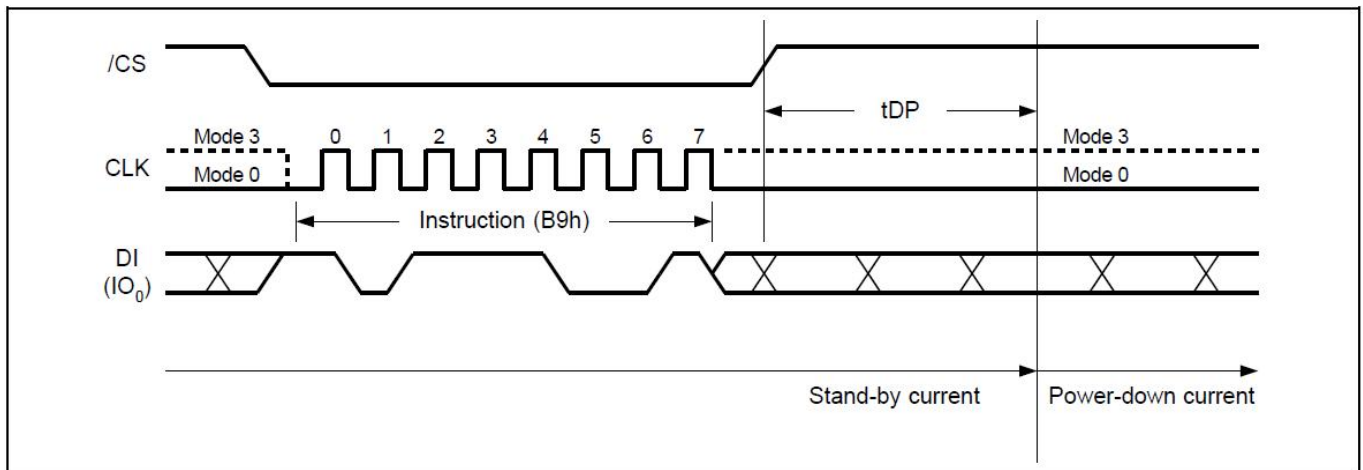

Figure20. Deep Power-Down Sequence Diagram
The Deep Power-Down Mode automatically stops at Power-Down, and the device always in the Standby Mode after Power- Up. The Deep Power-Down command sequence: CS# goes low → sending Deep Power-Down command → CS# goes high. The command sequence is shown in Figure20. CS# must be driven high after the eighth bit of the command code has been latched in; otherwise the Deep Power-Down (DP) command is not executed. As soon as CS# is driven high, it requires a delay of tDP before the supply current is reduced to IDPD and the Deep Power-Down Mode is entered. Any Deep Power- Down (DP) command, while an Erase, Program or Write cycle is in progress, is rejected without having any effects on the cycle that is in progress.